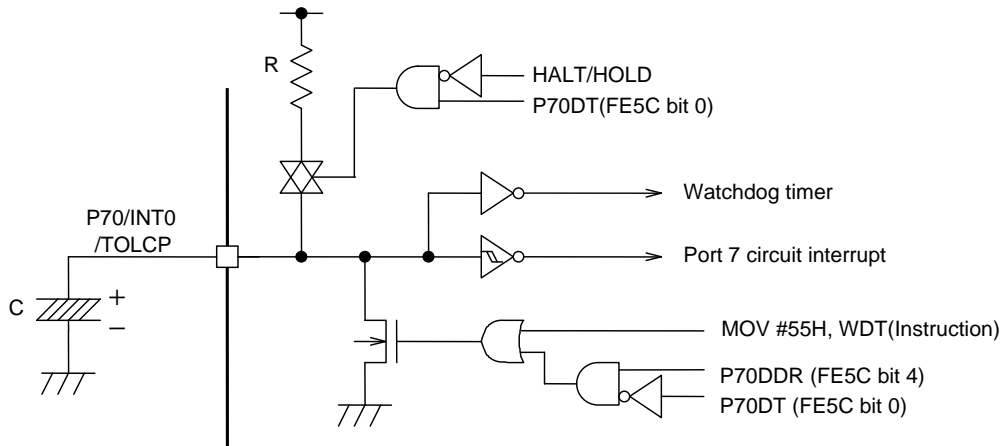

Fig. 4.5.3 Sample Application Circuit with a Pull-up Resistor
- 3) The external resistor to be connected to the watchdog timer can be omitted by setting bits 4 and 0 of the port 7 control register P7 (FE5C) to 0, 1 and connecting a pull-up resistor to the P70/INT0/TOLCP pin (see Figure 4.5.3).